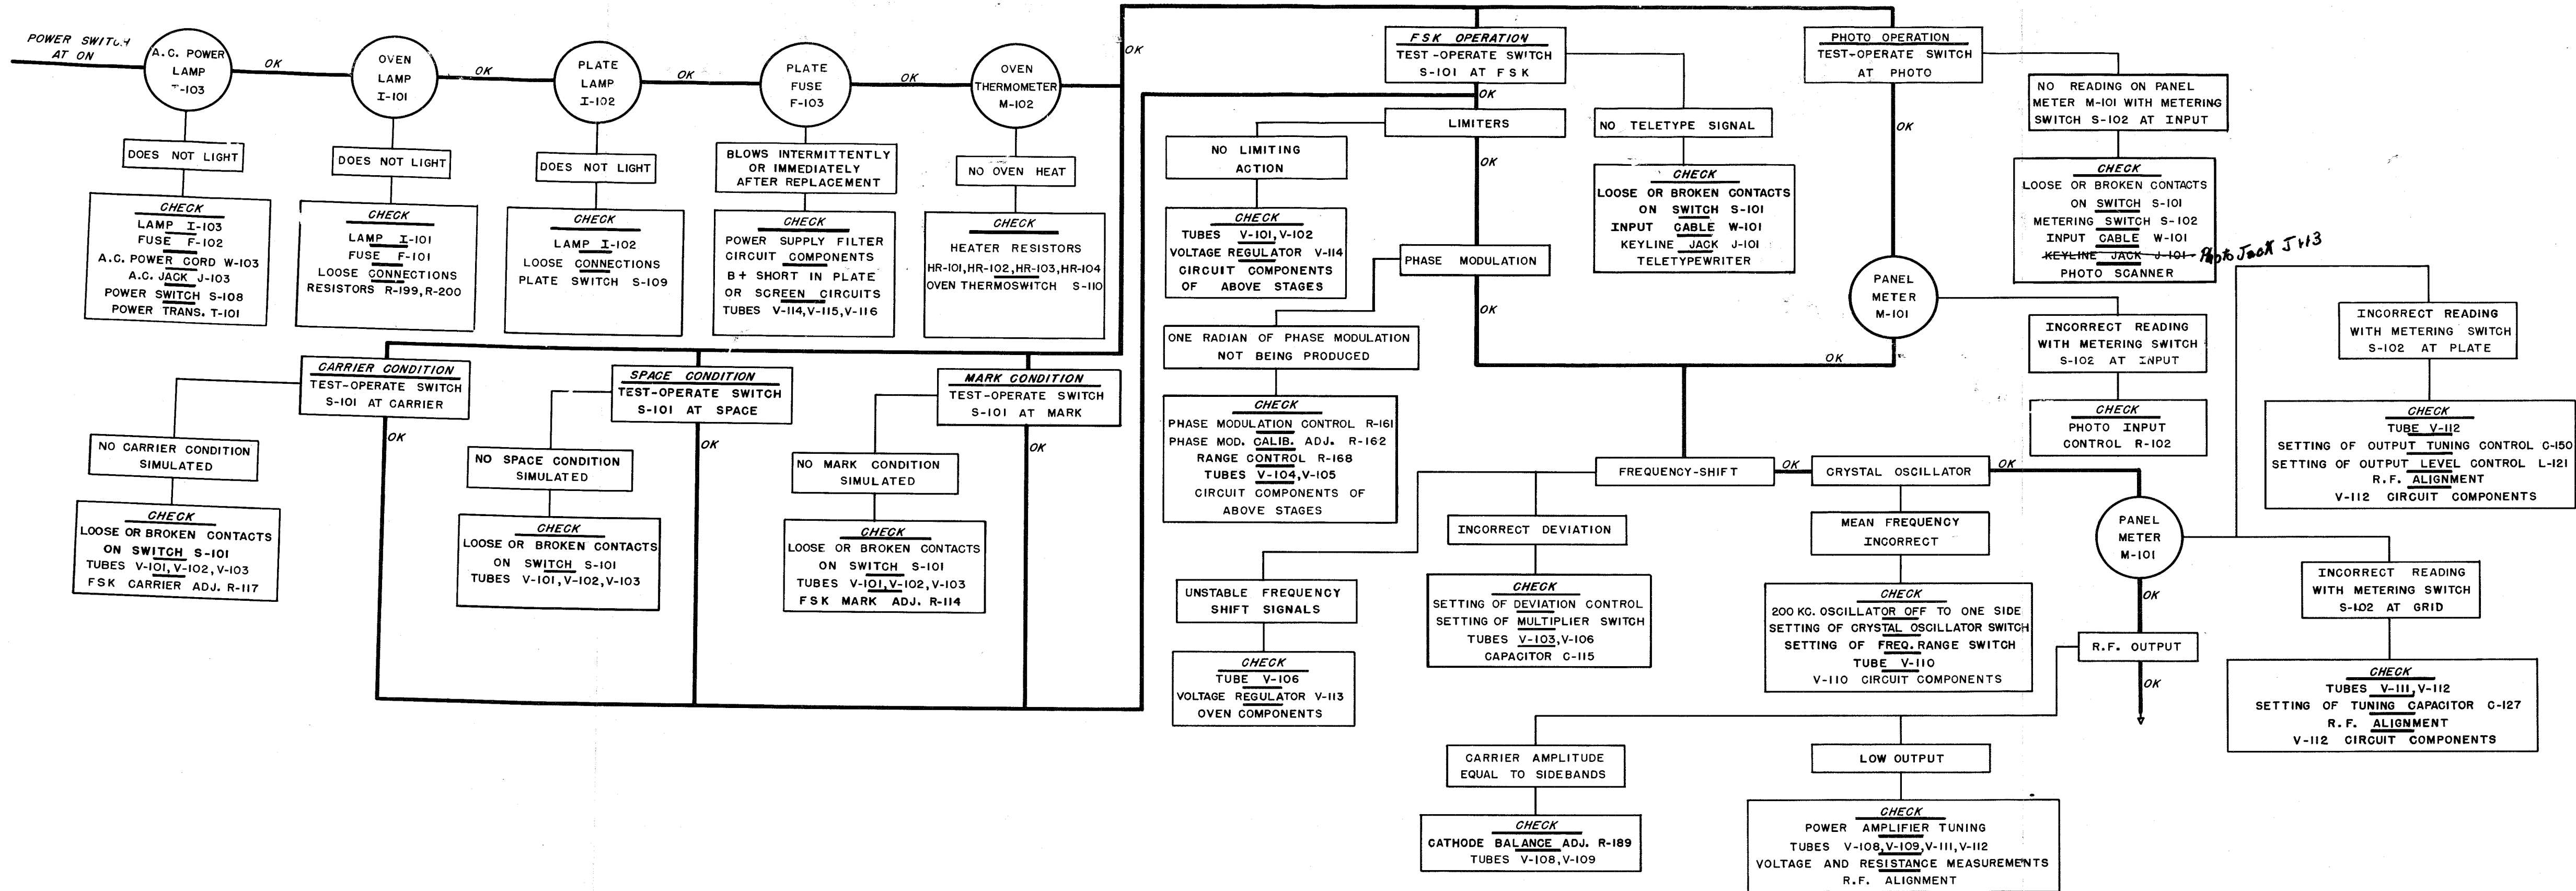
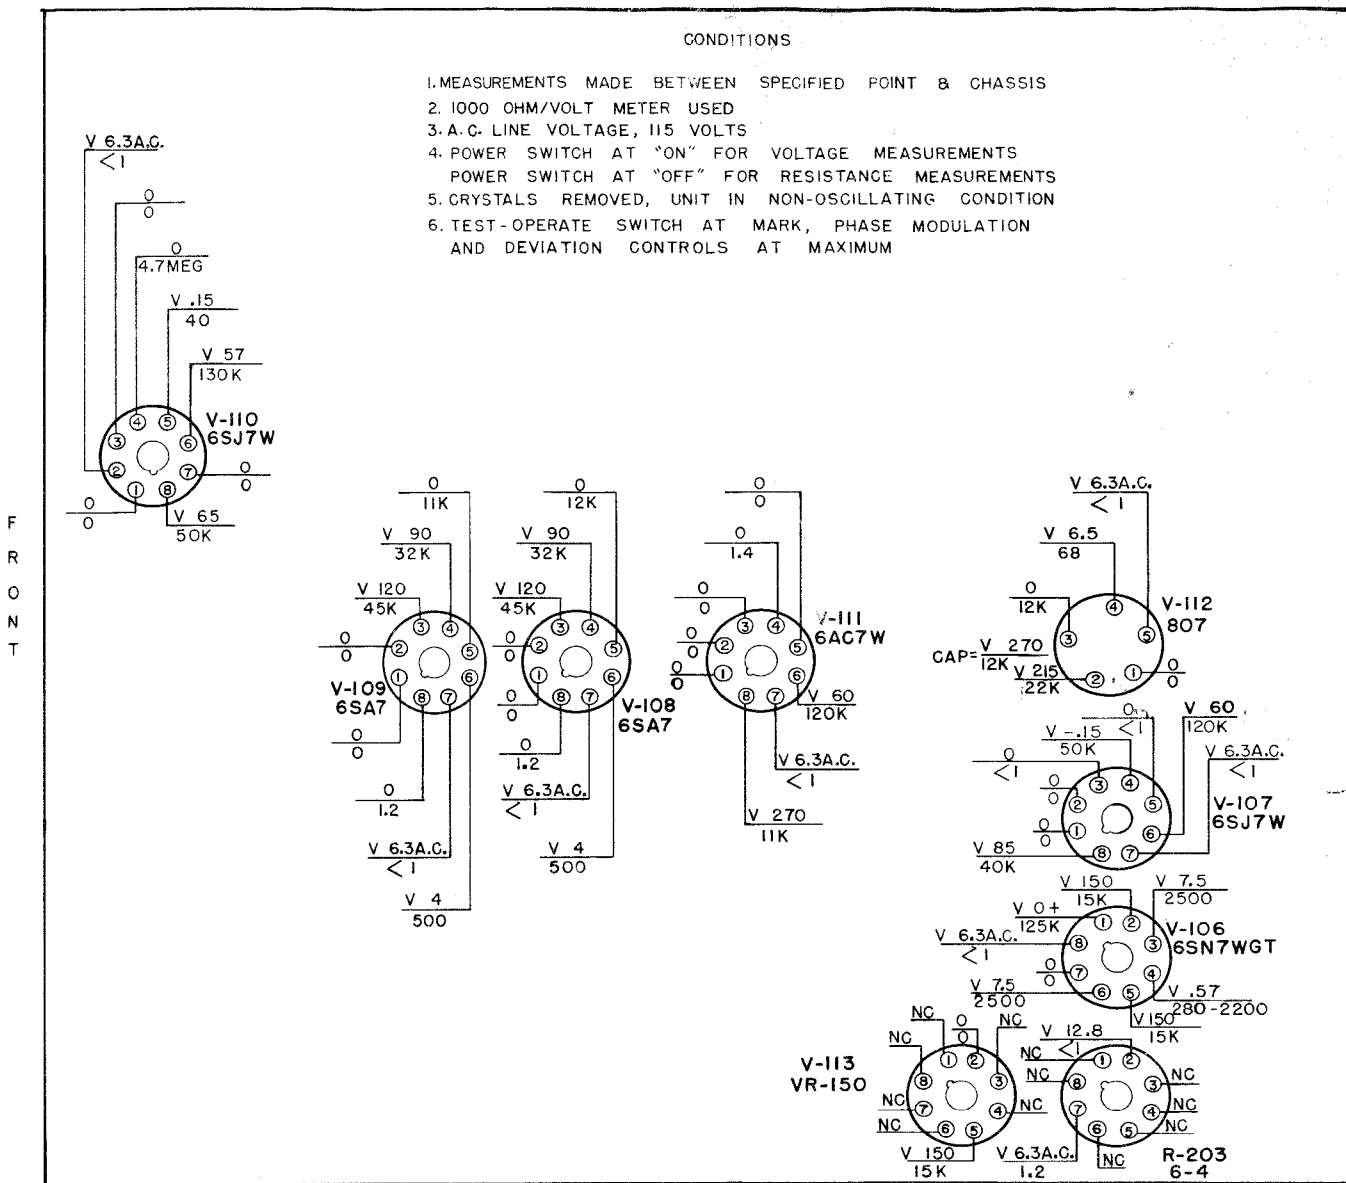

Figure 7-2. Trouble Shooting Chart
Figure 7-3. Voltage and Resistance Data Chart, Amplifier-Oscillator AM-655/URT
Figure 7-2 is a trouble shooting chart which lists in logical sequence a series of checks to be made to locate quickly the specific circuit causing faulty keyer operation. The trouble shooting chart does not list all possible troubles. However, it does list those that are most likely to occur. In most cases, the use of the chart will localize a source of trouble sufficiently well to enable its precise location by voltage and resistance checks in the suspected area.
a. GENERAL.—The location of troubles in the keyer can be accomplished by making the series of checks outlined on the trouble shooting chart, Figure 7-2. To read this chart start at the left hand side and follow the heavy black line to the right. An 'ok' following a specific circuit signifies that this circuit is operating properly and the maintenance man may proceed to the next stage. If a particular circuit is inoperative a series of checks pertaining to that circuit is shown in lighter lines adjacent to its position on the chart. A six-foot three-inch service cable W-109 is supplied with the KY-75/SRT to enable the maintenance man to remove the individual chassis from the cabinet and service the unit on a test bench. To use this cable connect it between the connector on the inside of the cabinet and the connector on the chassis being serviced. Refer to para. 5. (1) for the method of removing the chassis from the KY-58/GRT. Tubes should be checked in suitable tube testing equipment or by replacement with tubes of proven quality. Specific stages and their components can be checked by performing voltage and resistance measurements as outlined in Figures 7-3 and 7-4. Constant reference to the schematic diagram Figure 7-21 and the practical wiring diagram, Figures 7-22, 7-23 and 7-32 is required for efficient trouble shooting. A thorough inspection of the keyer and its external connections should be made before attempting any adjustments or repairs.